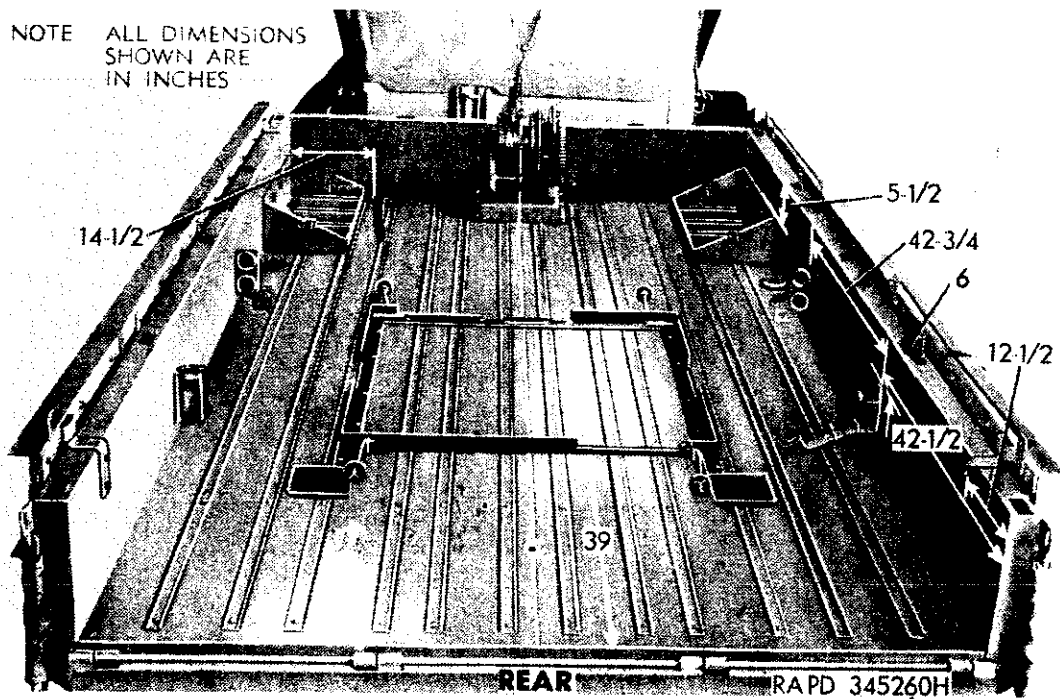
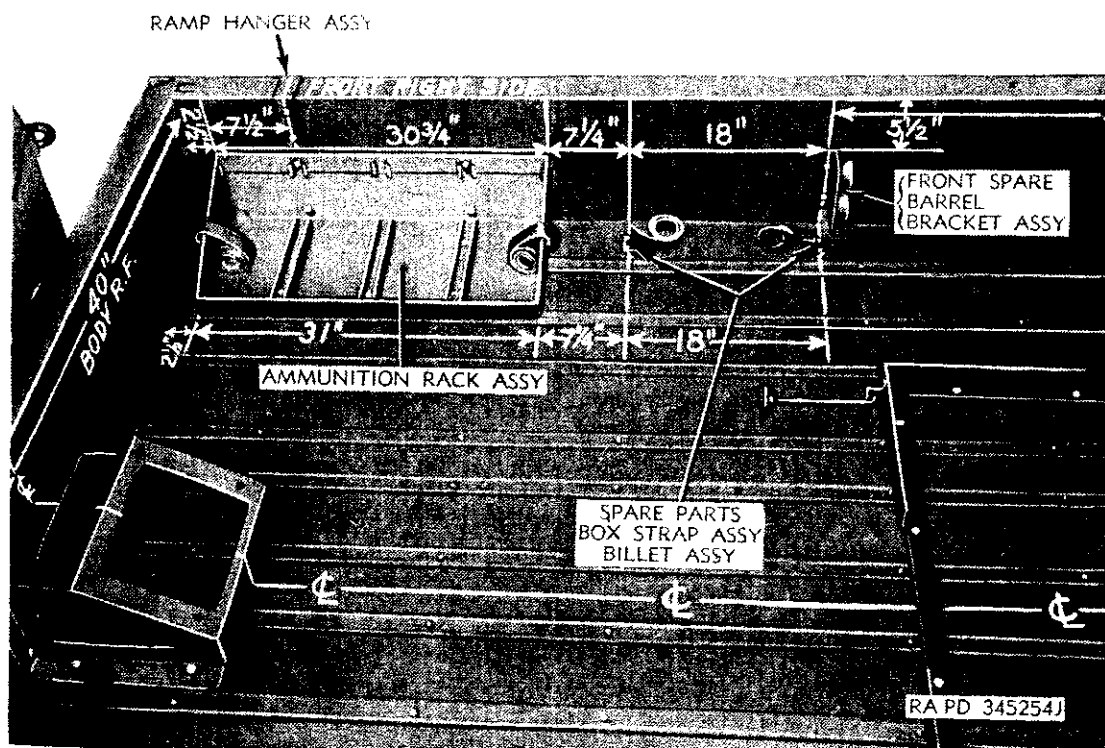

Figure 85. Superseded installation of loading aid kit 7069664.
Figure 86. Superseded installation of ammunition rack assembly.
*a.* The following part is required for altering old installations (fig. 86) to new installations (fig. 85).
*b.* The following parts of old installations (fig. 85) are to be discarded:
*d.* Remove both ammunition rack assemblies (fig. 86) from their positions in front right and front left of truck body.